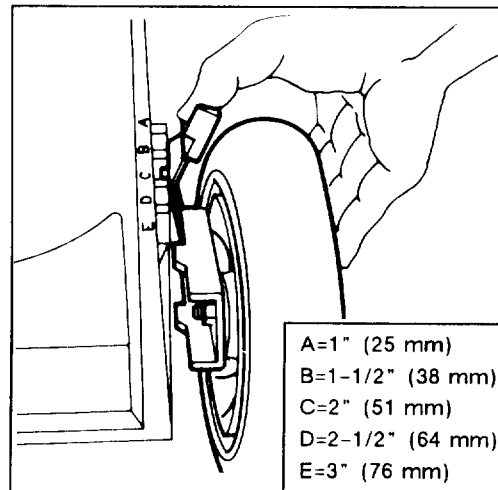

Figure 11
Five letters cast into the housing represent the height-of-cut settings (Fig. 11).
2. For easier adjustment, lift housing up so wheel is off ground. Squeeze adjusting lever toward wheel and move to desired setting (Fig. 11). Assure pin on adjusting lever engages notch in housing. Adjust all wheels to the same setting.